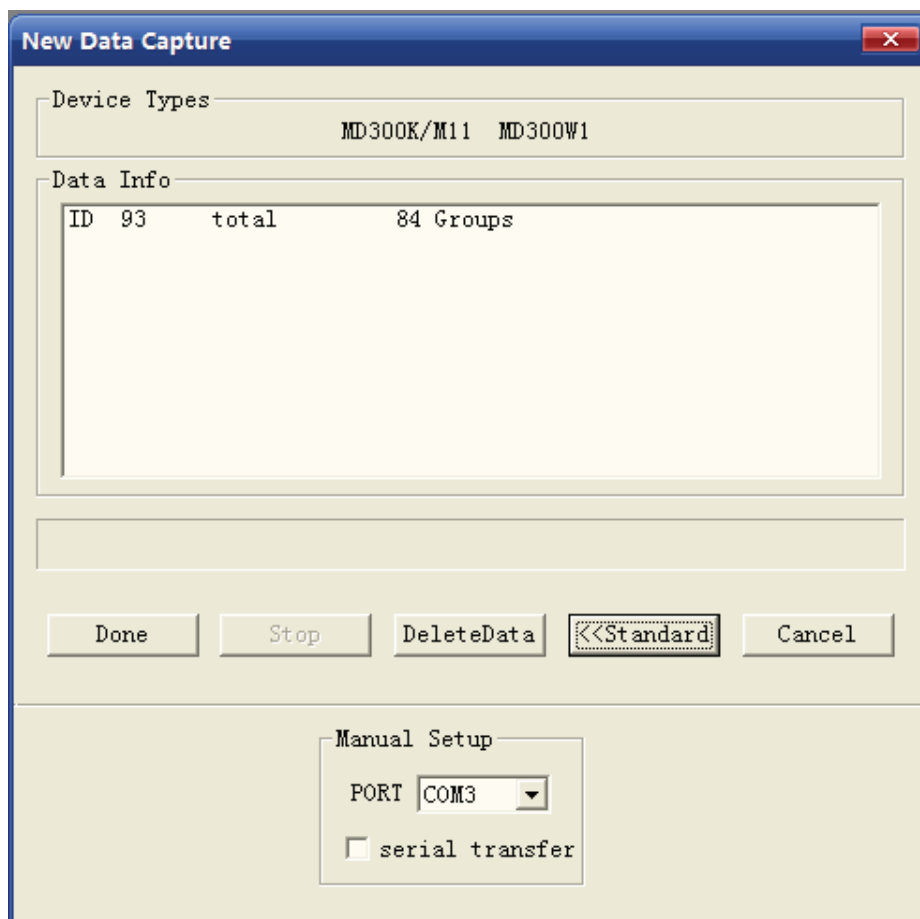

Figure 3-29
3.4.3 Note: DO NOT CHECK "serial transfer" when uploading data by Bluetooth® from the oximeter MD300C318, as shown in Figure 3-29. Click "Start" button for data transmission.
Note: If user uses non-microsoft® bluetooth® driver and the driver support bluetooth® virtual serial port for data transmission, the driver will create virtual serial port for the device. When using non-microsoft® bluetooth® driver, please be sure to check the “serial transfer” button in Figure 3-29, and choose the corresponding port in “Manual Setup” section.